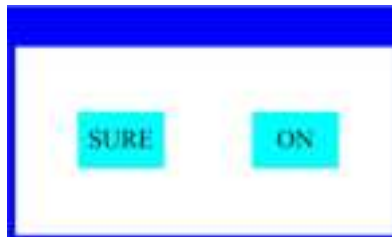

Figure 5 Determining the Input window
- The important parameters are determined through the confirmation window, as shown in Figure 5 below: